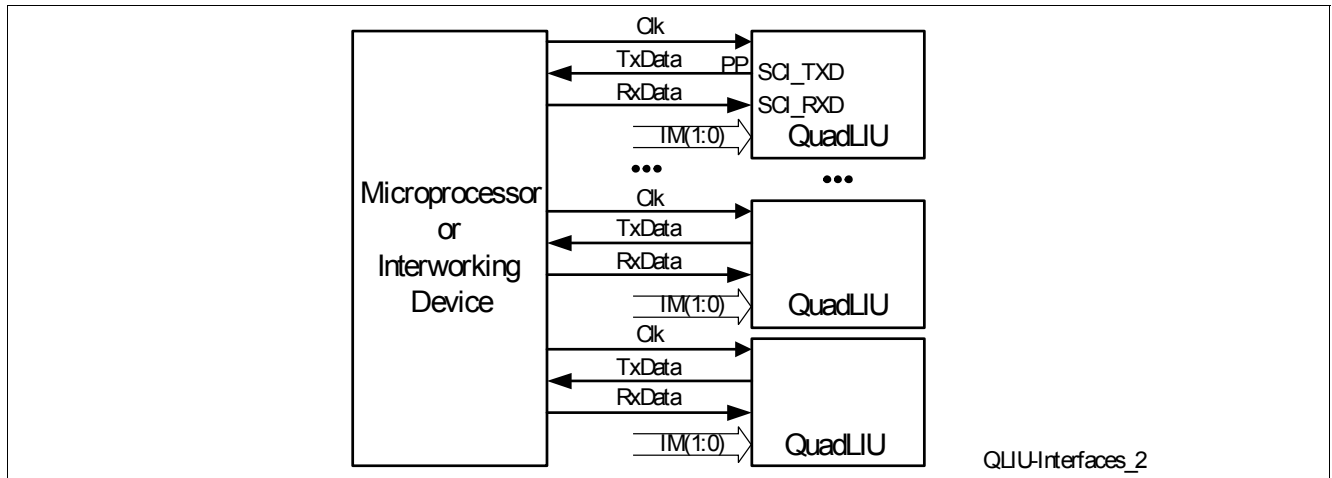
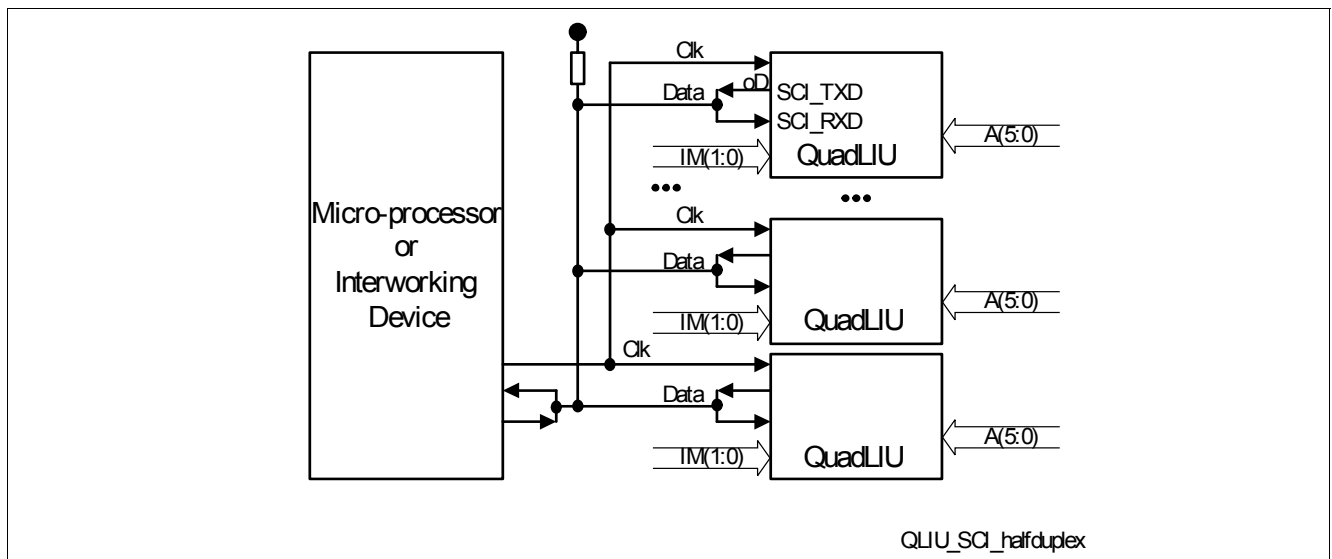

Figure 10 SCI Interface Application with Point To Point Connections
Figure 11 SCI Interface Application with Multipoint To Multipoint Connection
Figure 10 shows a first application using the SCI interfaces of some QuadLIU™s where point to point full duplex connections are realized between every QuadLIU™ and the micro controller. Here the data out pins of the SCI interfaces (SCI_TXD) of the QuadLIU™s must be configured as push-pull (PP), see configuration register bit PP in Table 9.
Figure 11 shows an application with Multipoint to multipoint connections between the QuadLIU™s and the micro controller (half duplex). Here the data out pin of the SCI interfaces (SCI_TXD) of all QuadLIU™s must be configured as an open Drain (oD), see configuration register bit PP in Table 9. The data out and data in pins (SCI_RXD, SCI_TXD) of each QuadLIU™ are connected together to form a common data line. Together with a common pull up resistor for the data line, all open Drain data out pins are building a wired And.
- Arbitration always made with LAPD (only SCI applications like in Figure 10 and Figure 11 are possible), bit ARB = '0'.